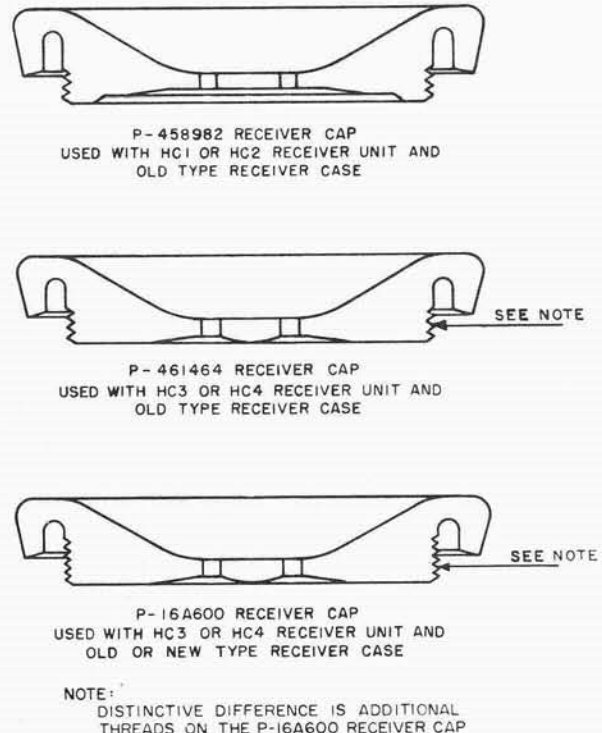

Fig. 12 — 52-type Headtelset Receiver Caps
10.07 When replacing receiver caps or units of the 52-type headtelset, use the combinations of receiver cases, caps, and units specified in Fig. 12.